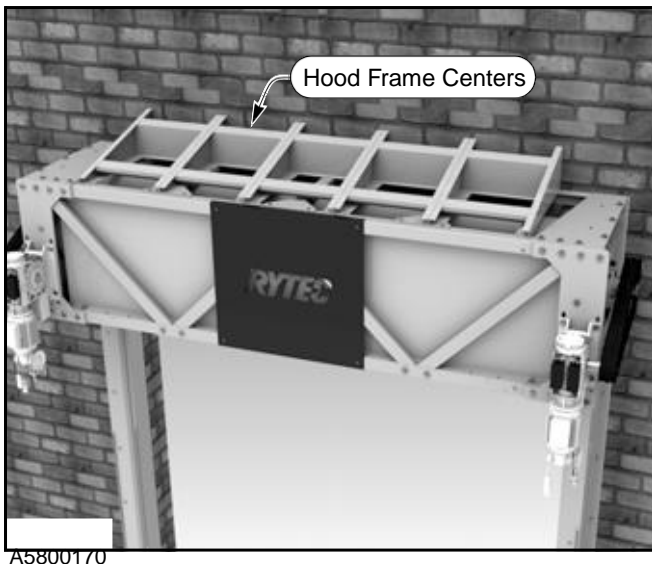

Figure 40
8. Place hood frame centers side-by-side along the width of the head assembly. (See Figure 40)